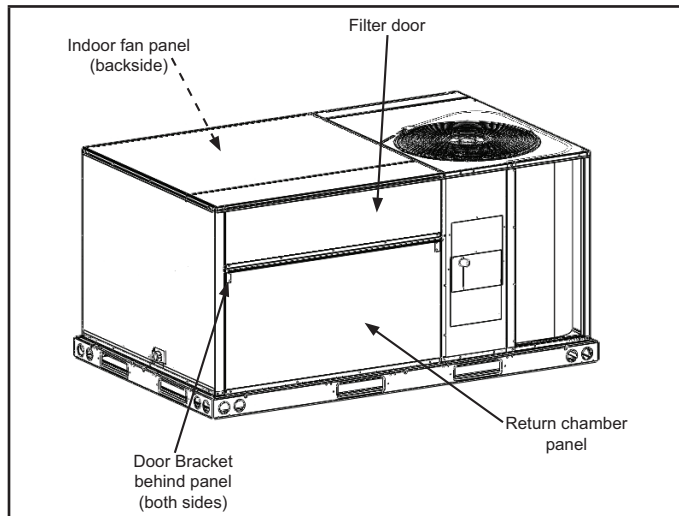
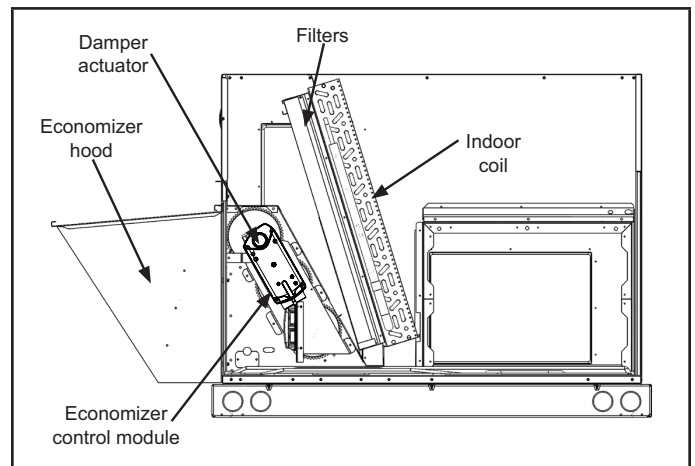
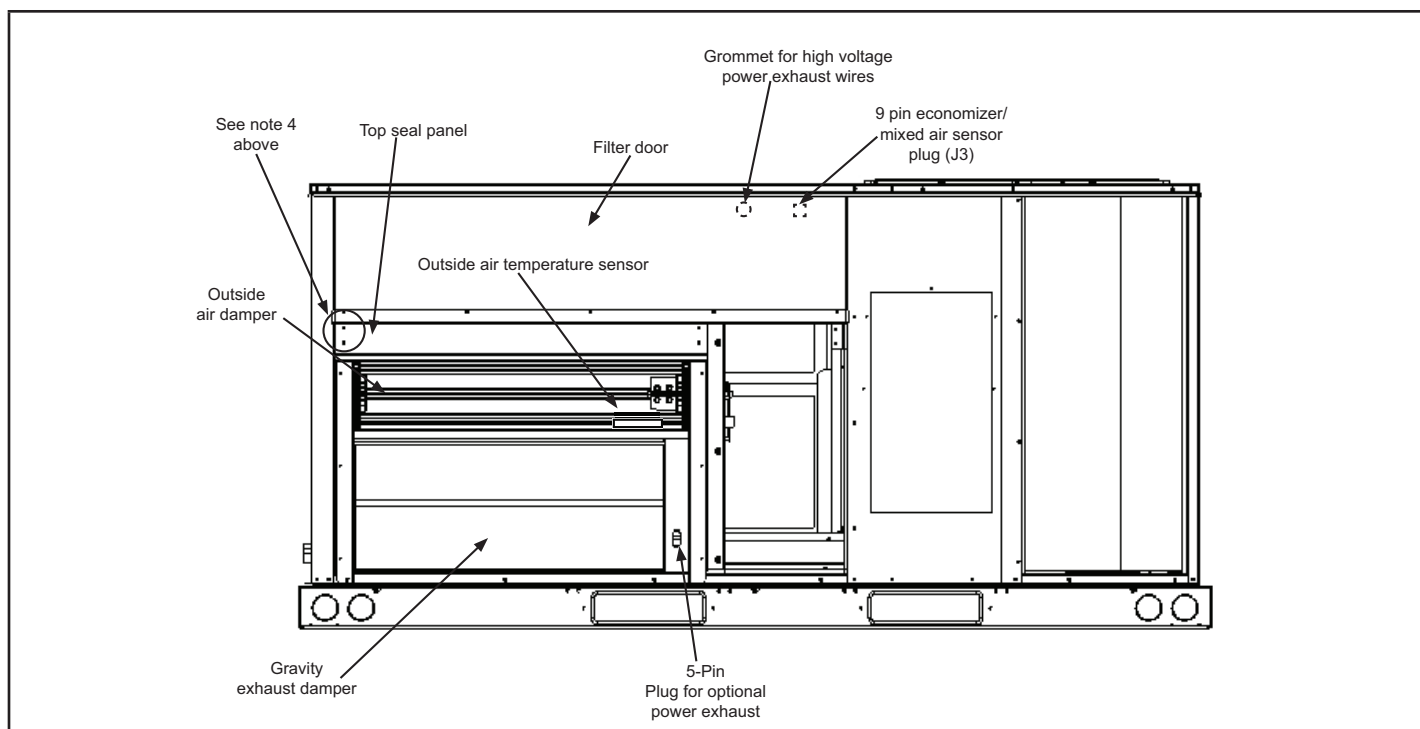
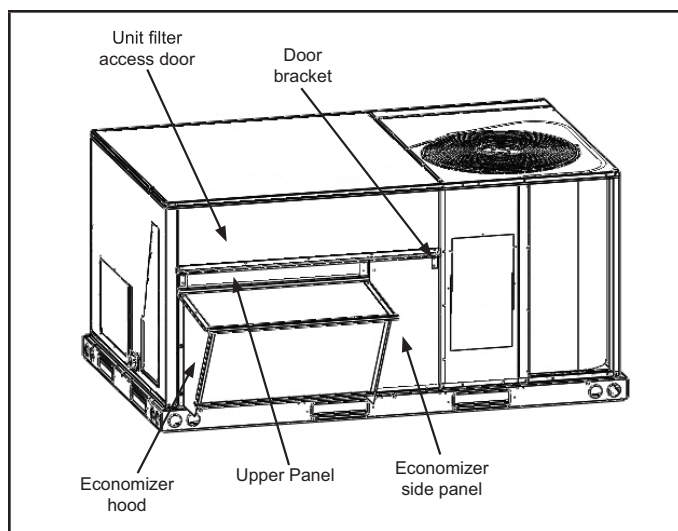

FIGURE 2
FIGURE 3
FIGURE 5
FIGURE 11
- 4 - Install damper assembly into unit. Fit opening in bottom of damper assembly over the return air opening. See FIGURE 3.
- 5 - Partially back-out the 2 screws on the left side of the economizer top seal. Insert these 2 screws into the door bracket (see FIGURE 2 and FIGURE 5) holes and tighten. Place screws in bottom flange as shown in FIGURE 5.
- 1 - Locate 9-pin J3 economizer jack harness seated in upper right panel inside filter compartment. Disconnect P3 jumper plug from J3 and retain jumper plug for future troubleshooting. Connect 9-pin P4 economizer plug from economizer control module harness to J3 economizer jack. Secure P4 harness with push in wire tie from parts bag and insert it into the 1/4" hole on top of filter rack. Refer to FIGURE 5.
- 5 - With hood assembled, fit the mating flange on hood top underneath the “knuckle” on the top seal panel. Attach hood over economizer as shown in FIGURE 3, FIGURE 5 and FIGURE 11.
- 6 - Screw hood to unit as shown in FIGURE 11.
- 2 - Install side panel to the right side of hood, see FIGURE 11. Screw panel to economizer on left side, and into door bracket on right side of panel.